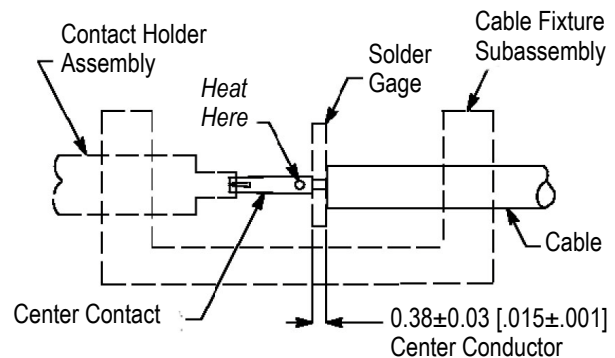

Figure 3
5. Place the center conductor in the solder gage. Align the end of the cable jacket with the solder gage. See Figure 3.
6. Place the center contact in the contact holder assembly. Heat the center contact, and slide it onto the cable center conductor until it rests firmly against the solder gage. See Figure 3.